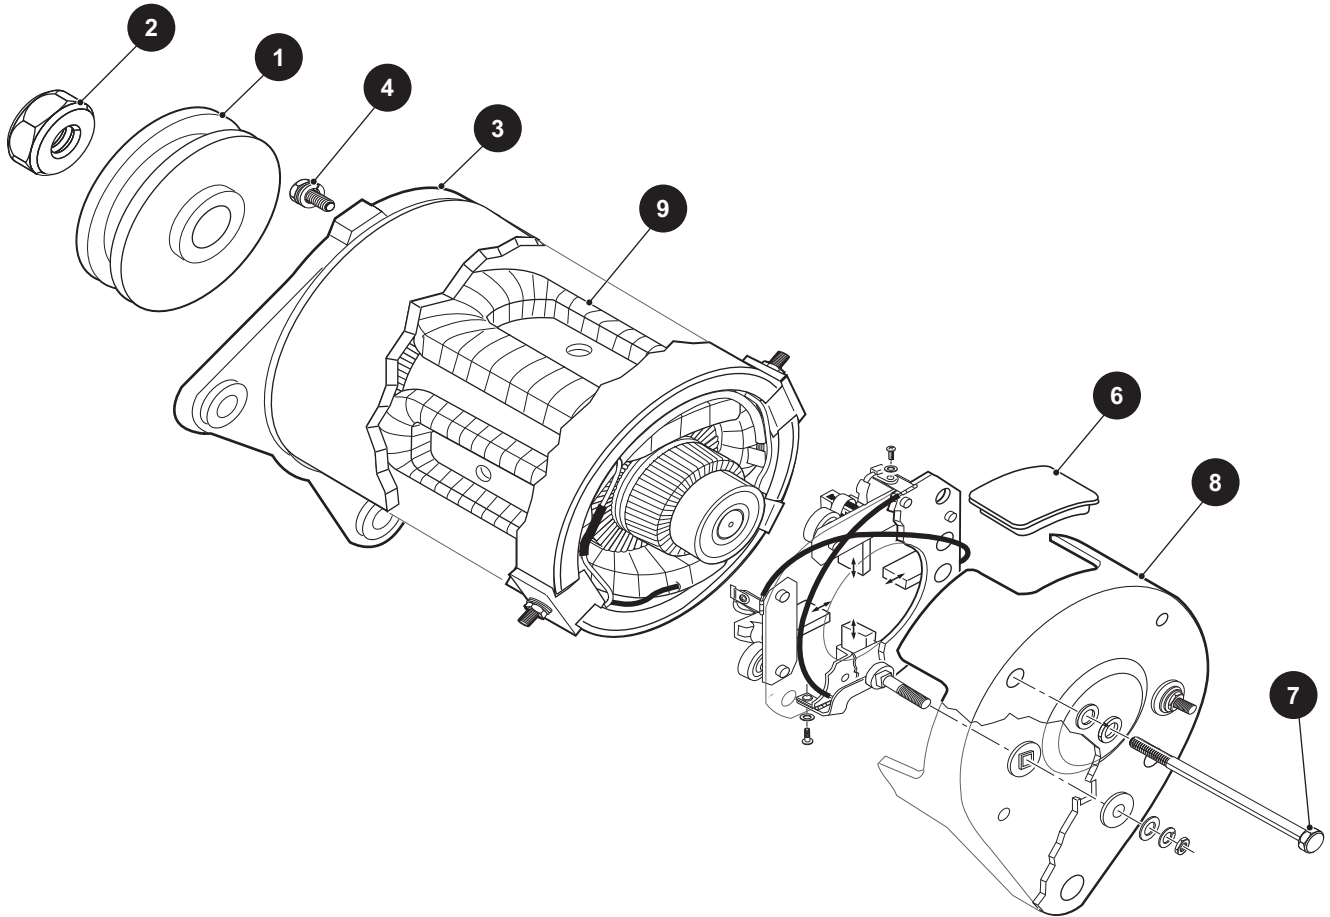

Fig. 6 Starter/Generator
Hold the pulley (1) and remove the pulley nut (2). Remove the pulley, screws (4) and front cover (3) (Ref. Fig. 6).